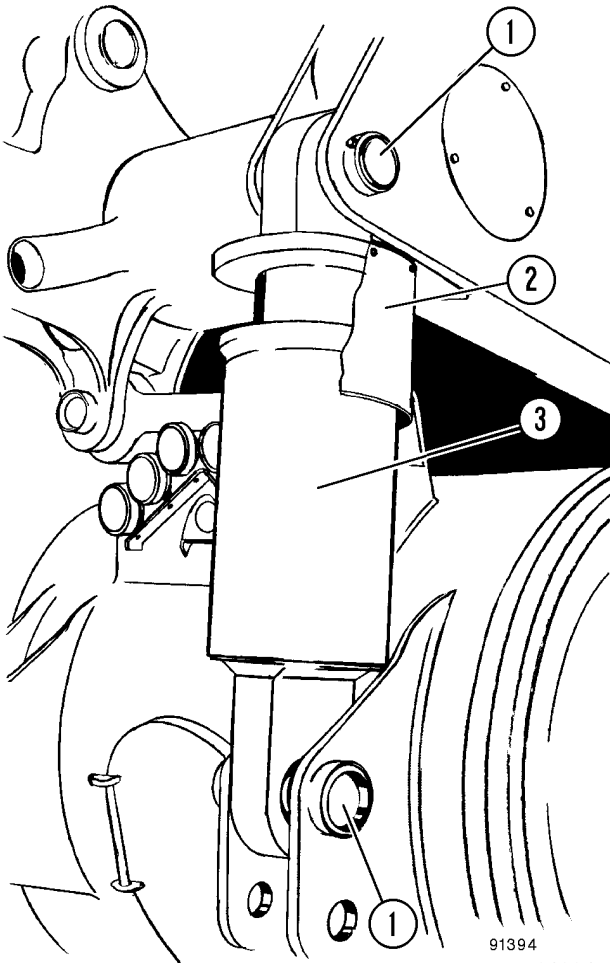

FIGURE 3-1. REAR SUSPENSION INSTALLATION
1. Remove capscrews, washers, and metal cover (2, Figure 3-1) from the suspension.